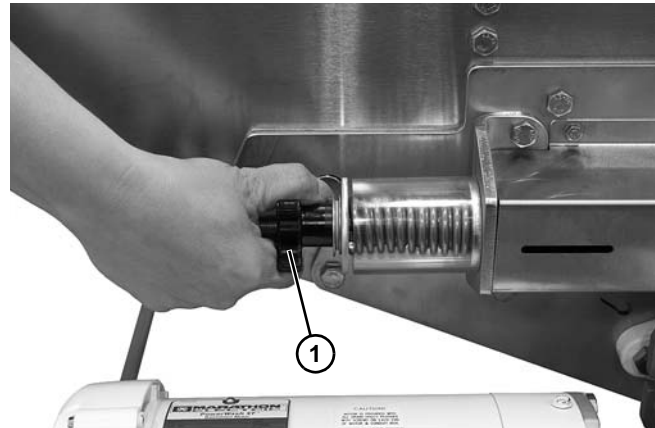

Figure 97
3. Rotate tension nut (Figure 97, item 1) on each side of the center drive counterclockwise to remove all tension on the belt.